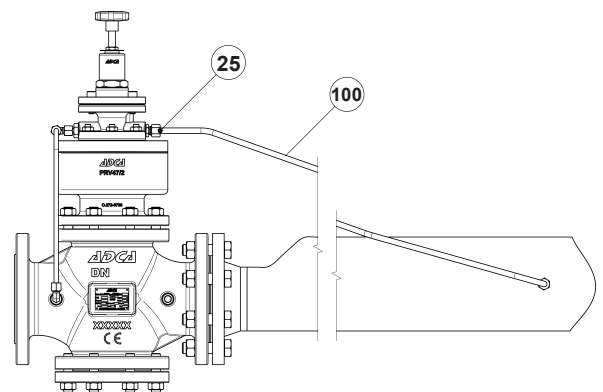

Fig. 5
**PRV47/2 standard – for steam, compressed air and other gases (Fig. 5)**